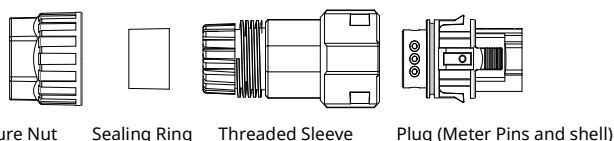

FIG.3 Components of Connector
1) Diagram of connector, as per FIG.3.